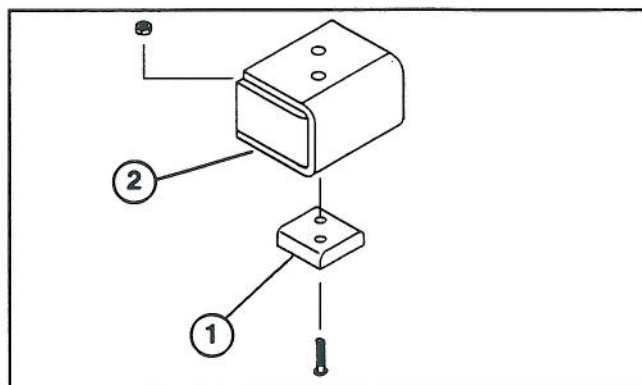

Figure 2
2. Mount the spacer blocks to the box spacers with fasteners previously removed, then remount box spacers to underside of bed using with new machine screws and locknuts (Fig. 2).